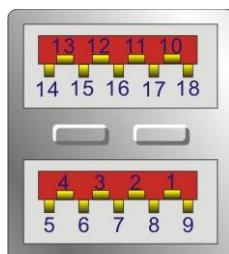

Figure 3-33: External USB 3.2 Gen 2 Connectors Location
- CN Location:** See Figure 3-33